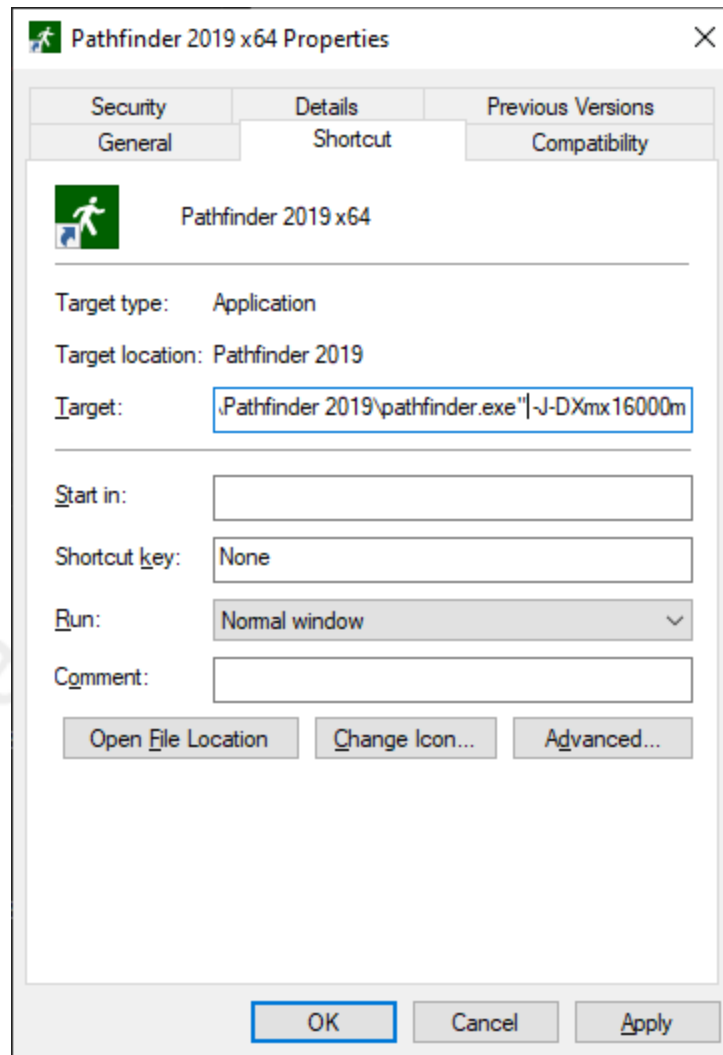

Figure 175. Example Shortcut Dialog
4. At the end of the **Target** field, type a space on the keyboard and then `-J-DXmx16000m`. The shortcut dialog will look similar to Figure 175.